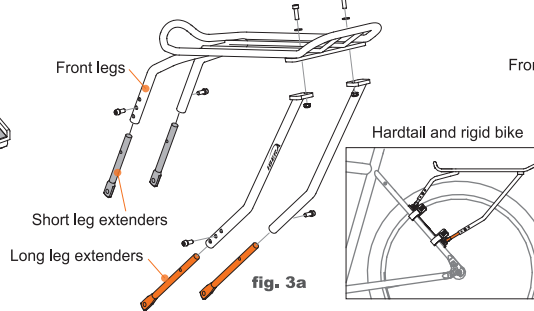

fig. 3a
4. Attach rear legs to carrier (legs are left and right specific: logo faces outwards). Using Allen key and wrench in unison, attach each arm using a long flat head bolt, washer and nut. Do not tighten completely (see fig. 3a or 3b).
Insert short extenders into front legs. Align extender bolt hole with middle bolt hole of legs. Screw in round bolts, but do not tighten as further adjustment may be necessary (see fig. 3a). Insert long extenders into rear legs and proceed as above. Proceed directly to 4.